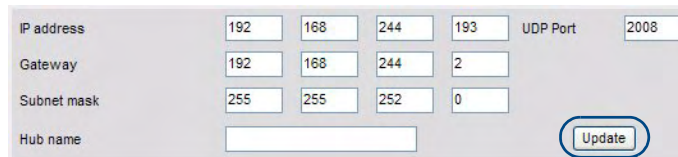

FIG. 3 Network Settings
2. Click on **Update** to save the new settings to the Hub (FIG. 3).